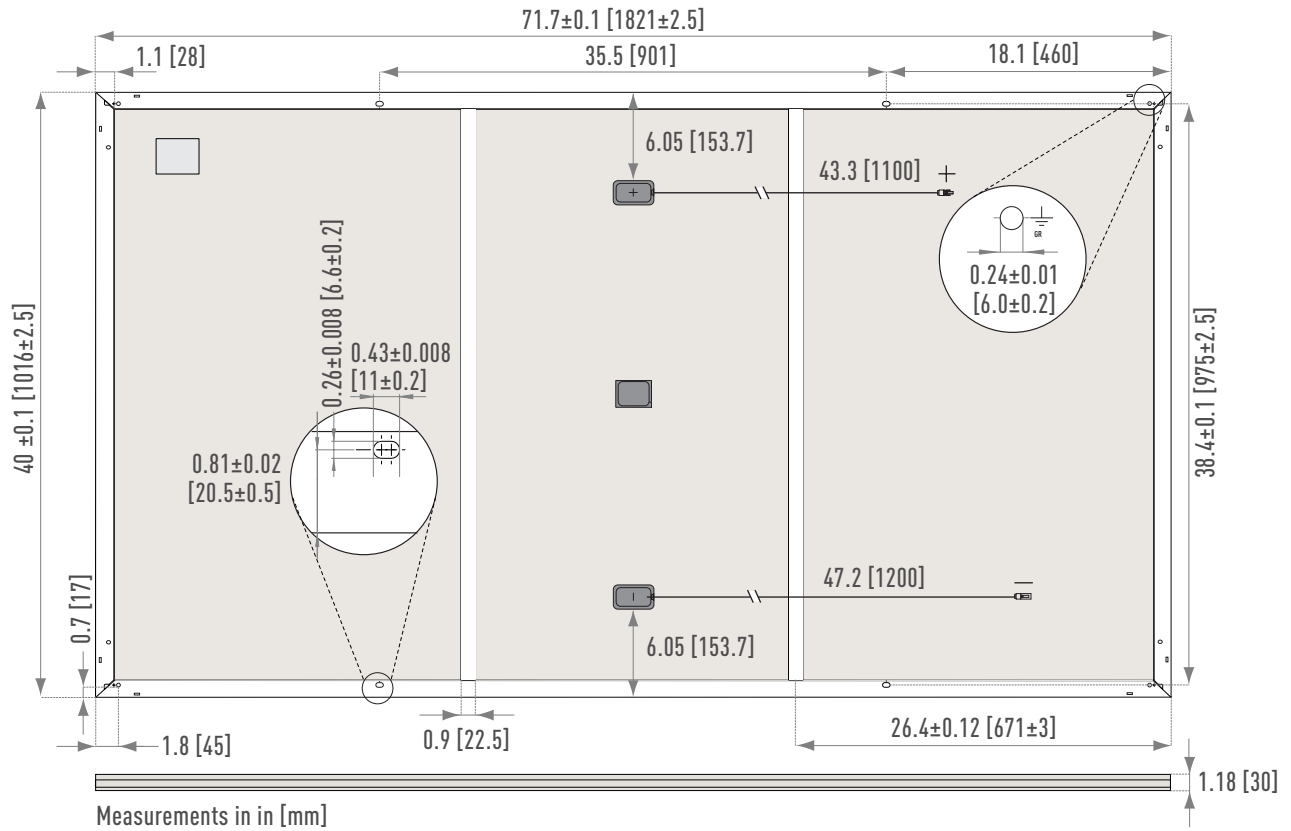

Figure 2. Module Dimension for EVPVxxxH and EVPVxxxHK Series
- To ensure connector compatibility and reduce the potential for damage to the modules and the wider installation, the connectors used on the EVERVOLT® modules are detailed in the Figure 2. Only permitted the mating of factory-installed connectors to connectors of the same manufacturer, type, and system rating as shown in the table below (Table.2).